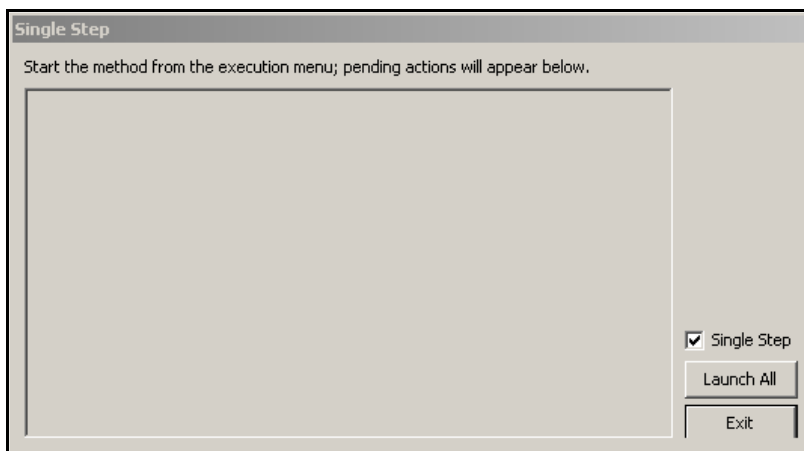

Figure 6-17. Single Step
1. Choose **Execution>Single Step**. Single Step appears (Figure 6-17).